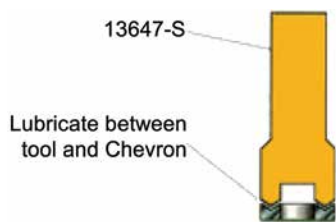

FIGURE 4.
3. Apply Lubriplate to the end of the 13647-S tool. The Lubriplate end of the 13647-S will pick up the chevron seals (Figure 4).